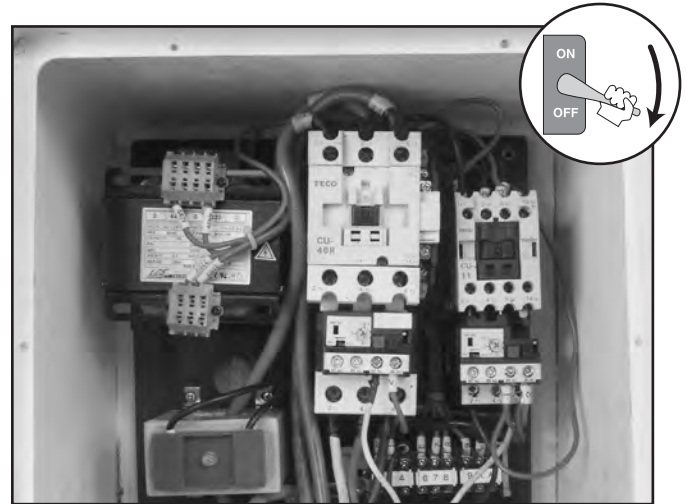

Figure 6. G0450 480V control box main panel.
5. Remove (4) cap screws (one in each corner) that secure the 240V main panel and replace it with main panel from 480V conversion kit (see **Figure 6**).
6. Connect power and motor wires to 480V main panel in same manner they were removed from 240V main panel (see **Figure 6**).